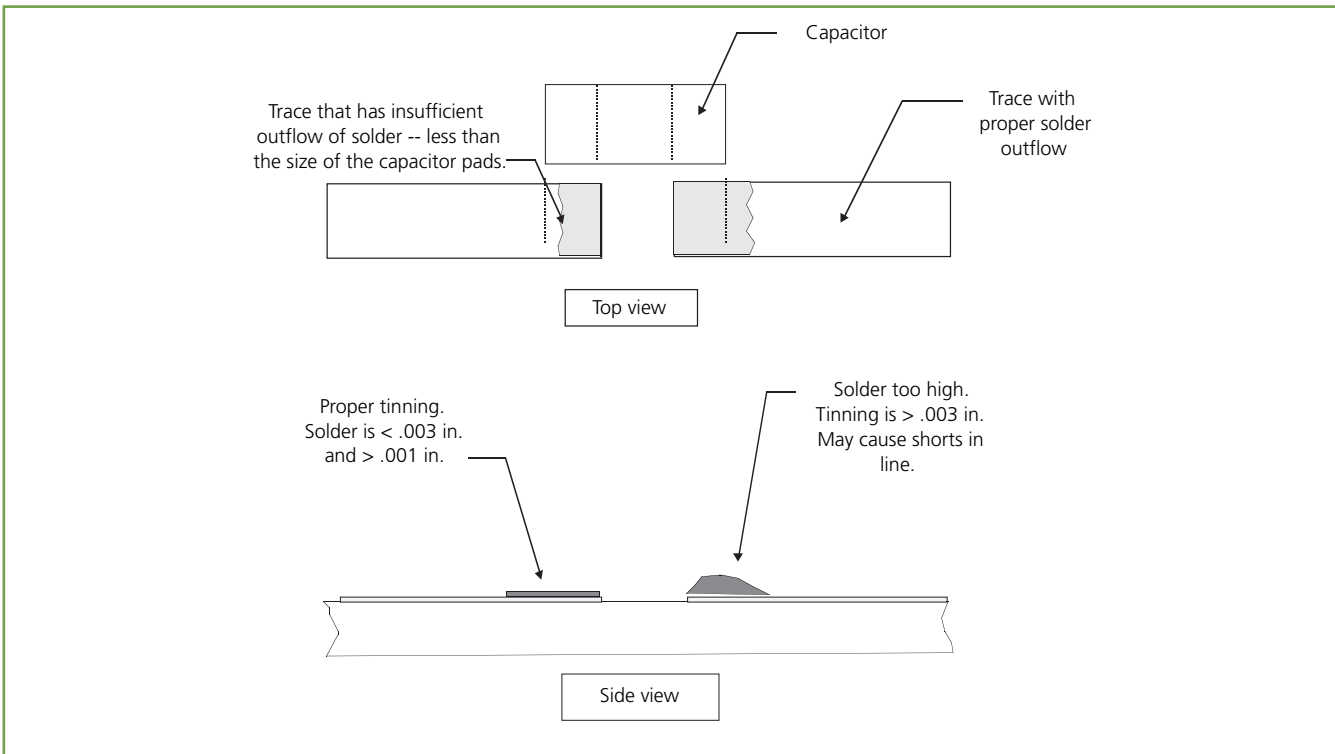

Figure 1. Proper trace reflow and solder amount needed for attachment
5. With the soldering iron preheated to 30-50 °C higher than the melting point of the solder used, carefully flow (flux core) or reflow (paste) the solder on the trace (see Figure 1).
7. After the reflowing is done, carefully clean the solder sites with an approved solvent and a cleaning swab. Inspect areas for proper solder amount (see Figure 1), then skip to step #11.